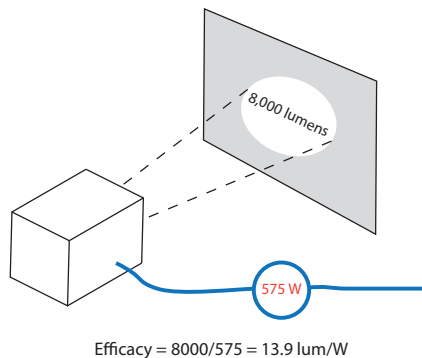

Figure 5 – LED luminaire with additive color
Figure 5 represents an LED based luminaire using RGB emitters; in this hypothetical example we get the same 8,000 lumens from 575 W in white, leading to an efficacy of 13.9 lum/W . However, when producing red light with this luminaire, we
Continuing the example used above, I've calculated that the Color Efficiency of a perfect 3200 K Planckian locus source is 27.3%, and thus the Color Ratio (CR) of the LED luminaire shown in **Figure 5** is $48/27.3 = 1.76$. As a user, if you saw a data sheet reporting a Color Ratio of 1.76, you could infer that the luminaire was 1.76 times more efficacious at producing colored light than a hypothetical black body source using subtractive color filters. That should give some idea of how good it might be for the task, particularly if deep colors are needed.